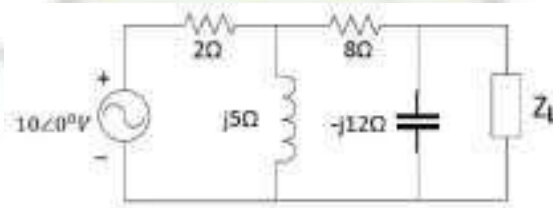

Figure 6
18. In the circuit given in Figure 6,